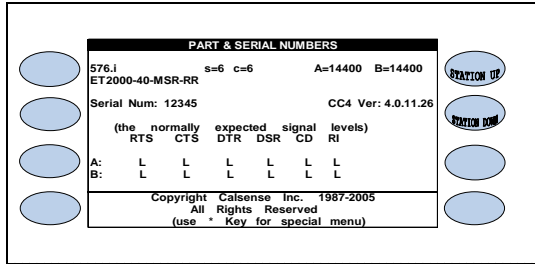

Figure 11.3
6. Press the **CONTROLLER INFO** Menu key to go to the PART & SERIAL NUMBERS screen (Figure 11.3).